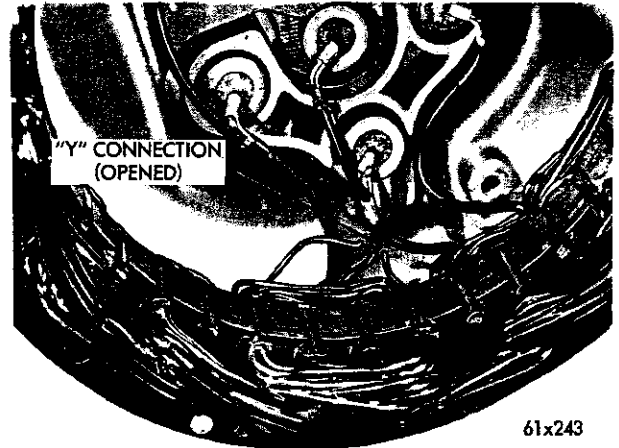

Fig. 65—Separating the Three Stator Leads (Typical)
(a) Separate the three (3) stator leads at the "Y" connection (Fig. 65).